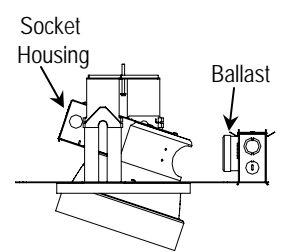
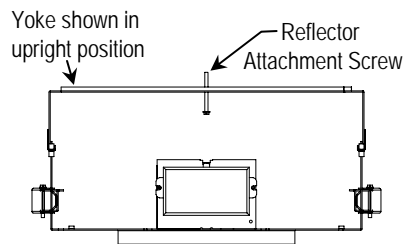
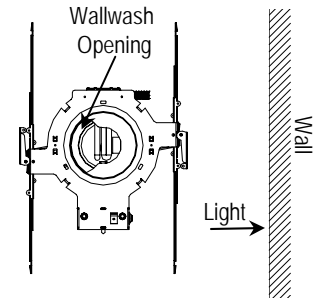

Figure 3
Figure 4
Figure 5
2. Insert reflector through the ceiling opening making sure to tilt and rock reflector (see Figure 3). Align reflector attachment screw (see Figure 4) with keyhole slot in reflector assembly. Tighten the attachment screw until the reflector is flush against the ceiling. **NOTE - For best results, position socket housing opposite the ballast.** For AFW trim, make sure that the wallwash opening in the reflector is oriented with respect to the wall to be illuminated (see Figure 5).